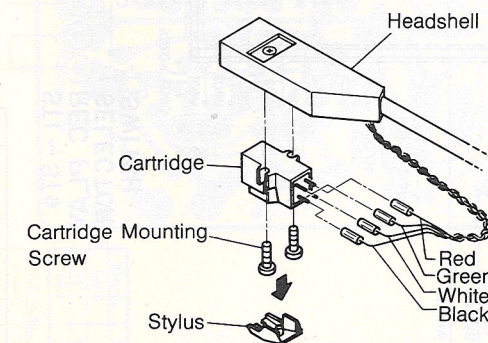

FIG. 21
- 2) To remove stylus, pull stylus from cartridge in the direction of arrow, as shown in Fig. 21.
- To replace cartridge, remove two (2) cartridge mounting screws and disconnect four (4) connectors.